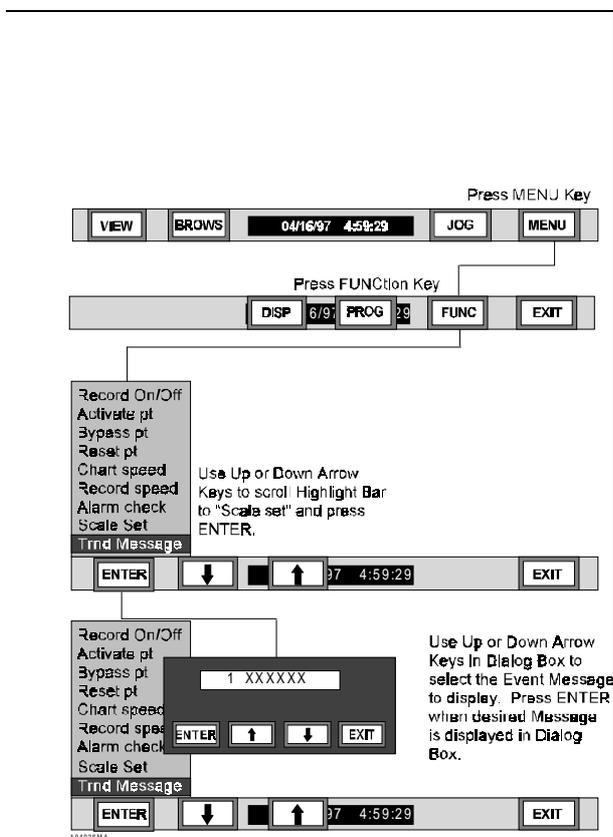

Figure 3-40 Select Message to Display Flow Chart
I. Trend Message - This menu item is used to manually print one of the six Event Messages (refer to Chapter 4) to the Alarm / Events Window and Alarm file. To select an Event Message, perform the following steps and refer to Figure 3-40: